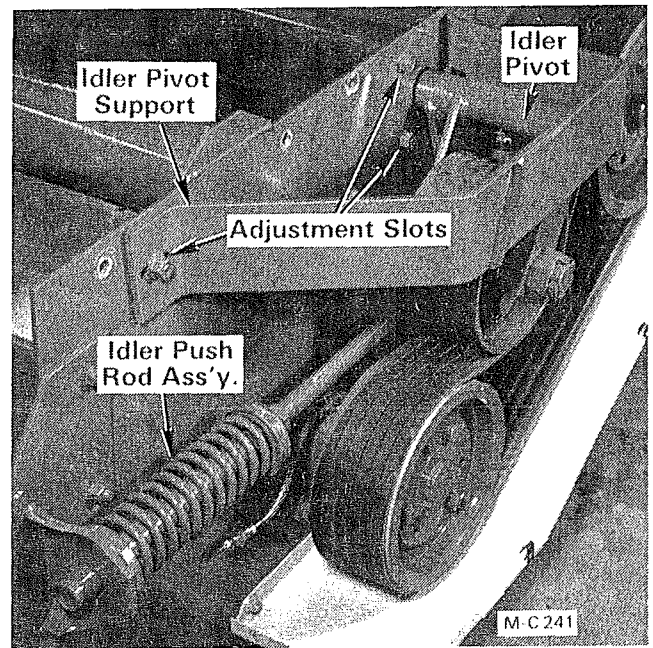

Figure 47
4. Remove the three capscrews, lockwashers and hex nuts securing the idler pivot support to the Shredder body, see Figure 47 & 48. Remove the idler pivot support and pull the idler pulley assembly off of the idler pivot
5. Remove cotter pin (1), castellated nut (2) and idler bolt (6) from the idler arm (5).
7. Pack the new bearing cones (9) with a good grade of wheel bearing grease. Press the bearing cups (10) into the hub, install bearing cones (9) and press in the bearing seals (8).
8. Put a hub spacer (7) on each side of the hub assembly and place the assembly in the idler arm (5). Install idler bolt (6) and castellated nut (2). Tighten the nut just enough to hold the assembly together.
9. Place the idler pulley assembly on the idler pivot. Install the idler pivot support, see Figure 47 & 48. Do not tighten the capscrews until after the idler pulley alignment has been checked.